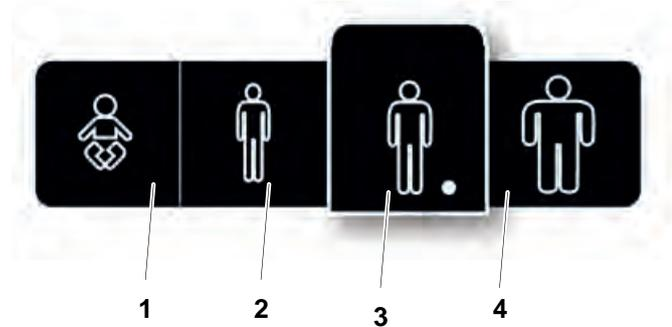

Fig. 3-27 Patient size selection
*Patient size* is adjusted by pressing the *Patient size selection* button. A pop-up window, according to Fig. 3-27 *Patient size selection*, will open and show available patient sizes.